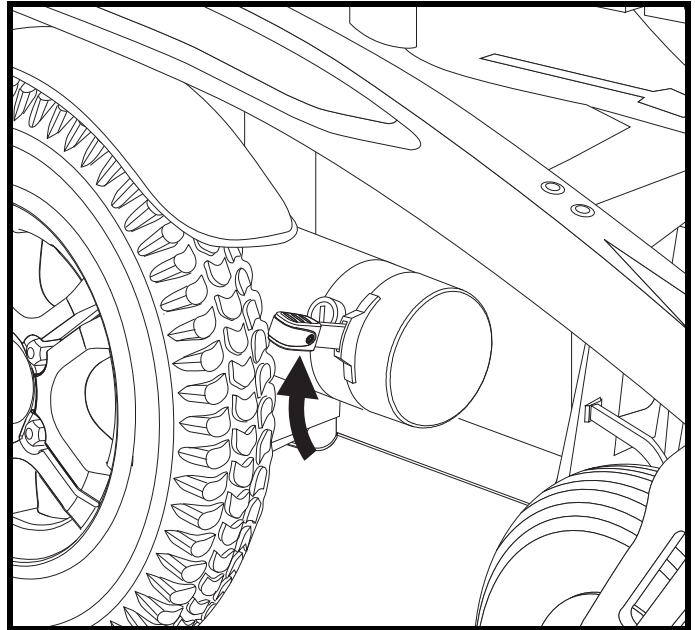

Figure 8. Drive Mode (Drive Engaged)
2. Pull up both manual freewheel levers for drive mode (drive motor engaged). See figure 8.